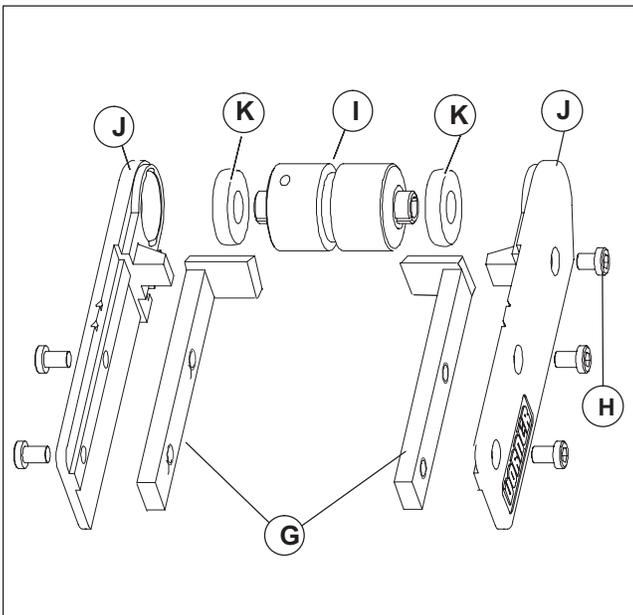

Figure 6
1. Typical components (Figure 6)
3. Insert slide bars (Figure 6, item G) into 2100 frame.